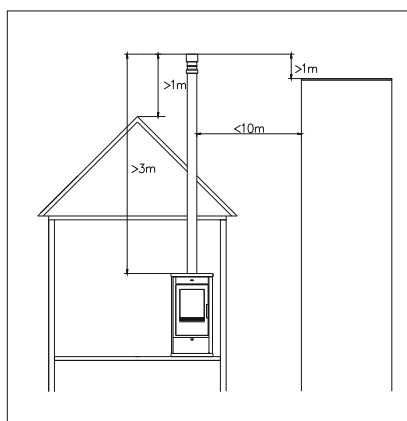

Figure 6
- The chimney should be high enough, compared with the roof and nearby buildings (fig. 6). The flue draught should be higher than 10 Pa, and for stoves with integral water boiler up to 15 Pa. If the chimney is very high (the draught exceeding 35 Pa) then it is necessary to install a supplementary valve to reduce the draught.